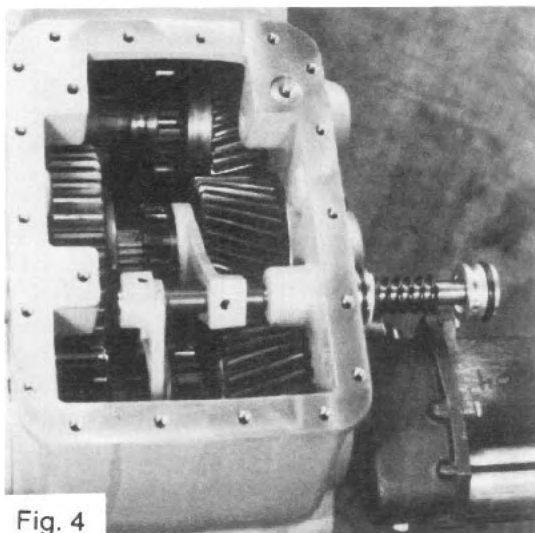

Fig. 4
5. Remove shift cylinder tube from the shift cylinder adapter tube located in the housing, exposing piston (See fig. 4).